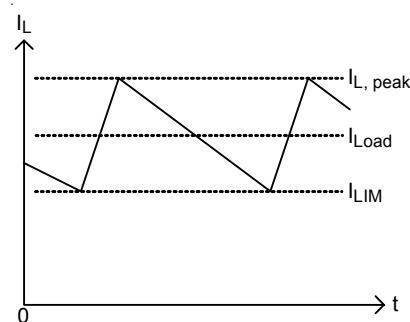

Figure 2. Valley Current Limit
RT8209A/B/C has cycle-by-cycle current limiting control. The current limit circuit employs a unique “valley” current sensing algorithm. If PHASE voltage plus the current limit threshold is below zero, the PWM is not allowed to initiate a new cycle (Figure 2). In order to provide both good accuracy and a cost effective solution, the RT8209A/B/C supports temperature compensated MOSFET RDS(ON) sensing. The CS pin should be connected to GND through